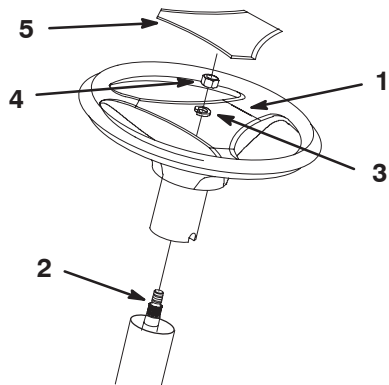

Figure 1
3. Line up the center spoke toward the seat and position the steering wheel onto the shaft spline (Fig. 1).
4. Secure the steering wheel with a lock washer and nut (Fig. 1).
6. Snap the logo cover into place (Fig. 1).